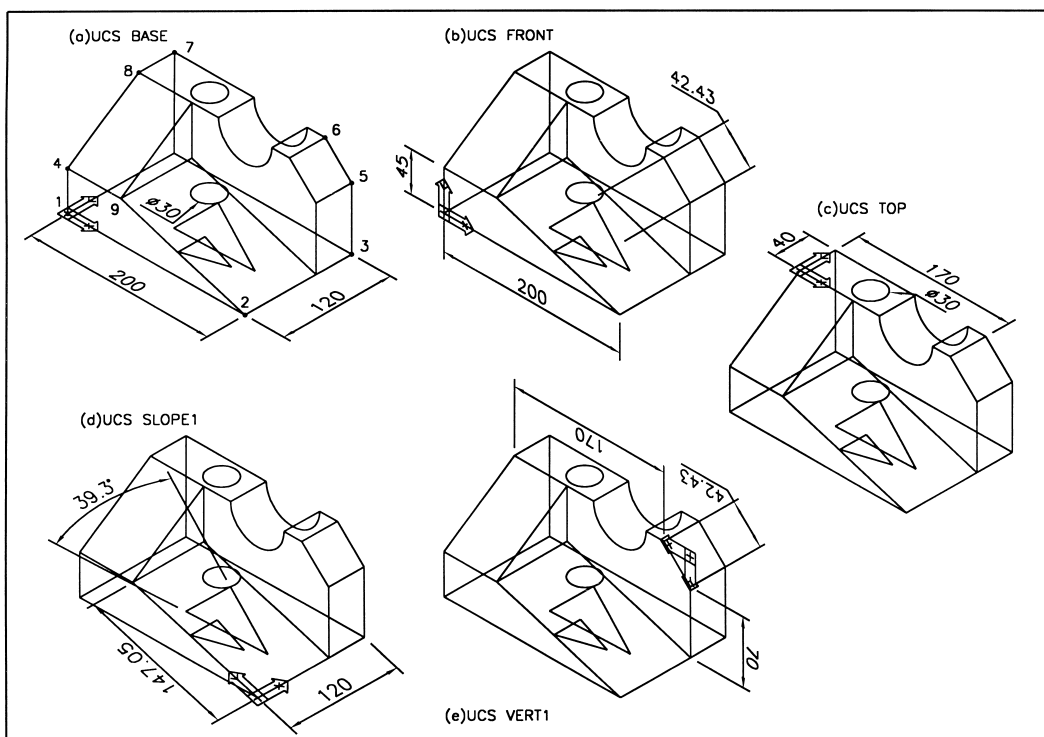

Figure 7.1 Dimension exercise with 3DWFM.
- 4 Ensure UCS BASE is current and refer to Fig. 7.1